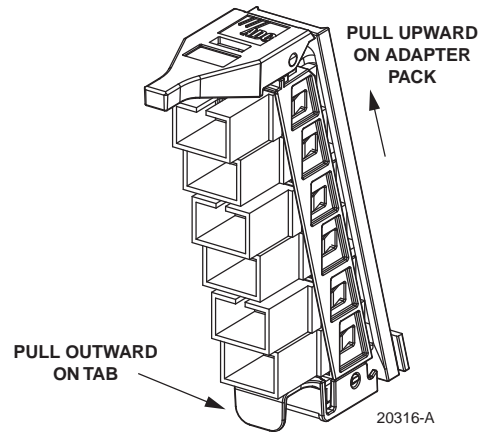

Figure 84. Removing Adapter Pack
6. From the front, pull outward on the tab located underneath the adapter pack assembly while at the same time pulling upward on the adapter pack as shown in Figure 84.